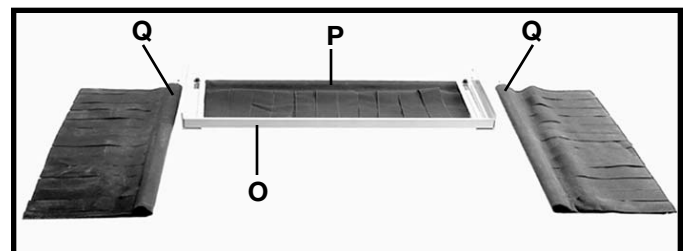
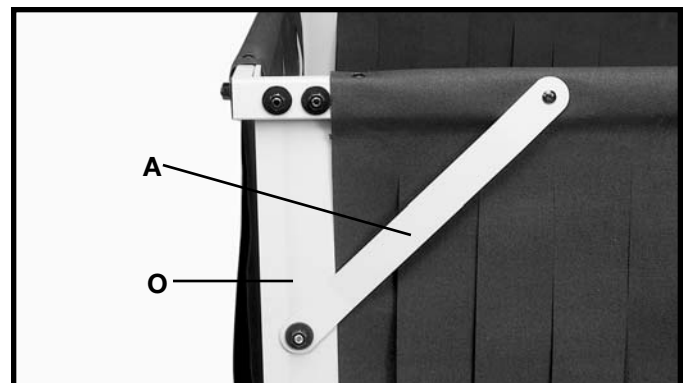

Fig. 18
Fig. 18A
2. Attach the back curtain rod (P), to the back of the curtain frame (O) Fig. 18. Insert a 1/4-20x7/8" flat head screw through the curtain frame (O) and the back curtain rod (P), thread a 1/4-20 flange nut onto the 1/4-20x7/8" flat head screw and tighten securely. Repeat this process for the remaining hole in the curtain frame and back curtain rod.
3. Attach the side curtain rods (Q) Fig. 18, to the side of the curtain frame (O). Align the holes in the side curtain rods (Q) Fig. 18 with the holes in the curtain frame (O). **NOTE: MAKE SURE THAT THE CURTAIN FRAME SUPPORTS (A) ON THE SIDE CURTAIN RODS ARE POSITIONED TO THE OUTSIDE OF THE CURTAIN FRAME AS SHOWN IN FIG. 18A.** Insert a 1/4-20x7/8" flat head screw through the curtain frame and the side curtain rod, and thread a 1/4-20 flange nut onto the flat head screw and tighten securely. Repeat this process for the three remaining holes in the side curtains and the curtain frame.
4. Attach the curtain frame supports to the curtain frame. Align the hole in the curtain frame support (A) Fig. 18A, with the hole in the curtain frame (O). Insert a 1/4-20x7/8" flat head screw through the curtain frame and the curtain frame support and thread a 1/4-20 flange nut onto the flat head screw and tighten securely. Repeat this process for the remaining curtain frame support.